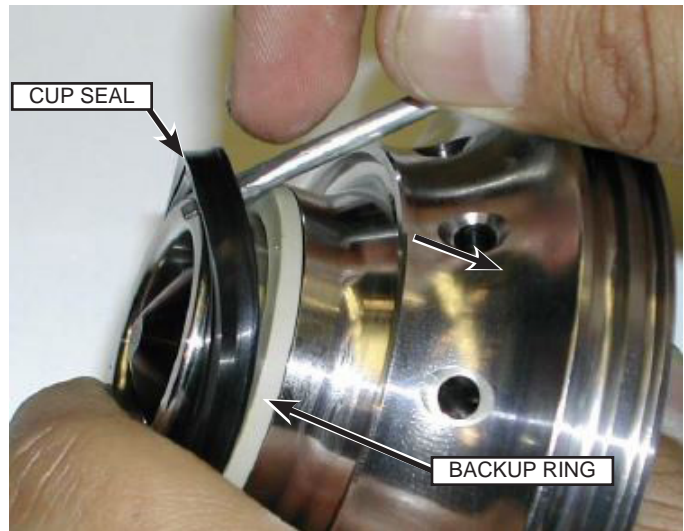

Fig. 100: Ring Seal Removal
3. Use the screwdriver to remove the ring seal (Fig. 100) and seal support ring.